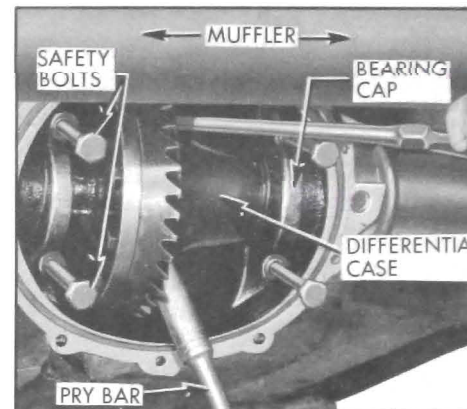

Figure 6-11—Removing Differential Assembly
4. Using two pry bars, pry differential case assembly out carefully. See Figure 6-11. Differential will be held tightly if bearing preload is correct.